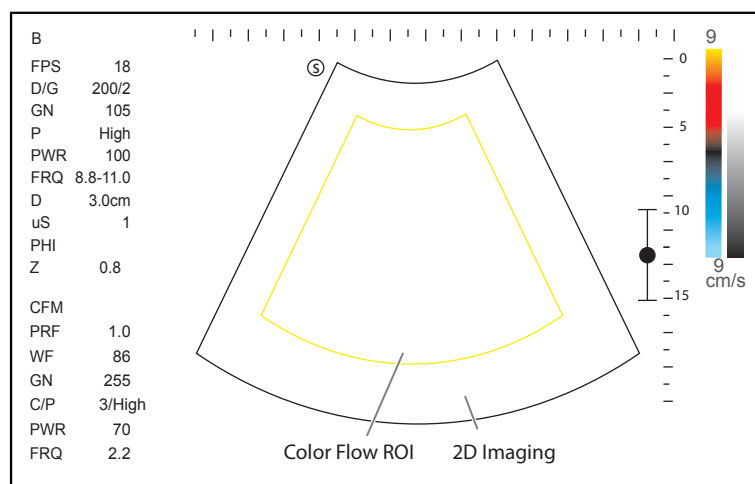

Figure 6-6 CFM-Mode Imaging Screen
2. Press the **C** key on the control panel to enter the CFM mode. The basic screen is shown in Figure 6-6.